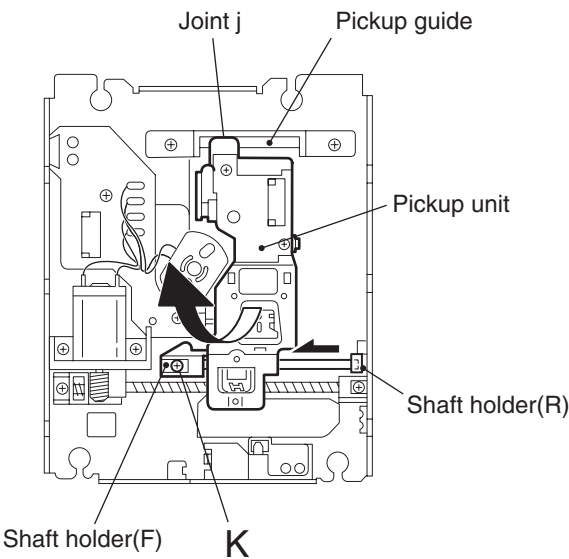

Fig.17
■ Removing the pickup unit (See Fig.17)
1. Remove the screw **K** attaching the shaft holder (F) on the back of the traverse mechanism assembly.
2. Move the shaft inward and release from the shaft holder (R).